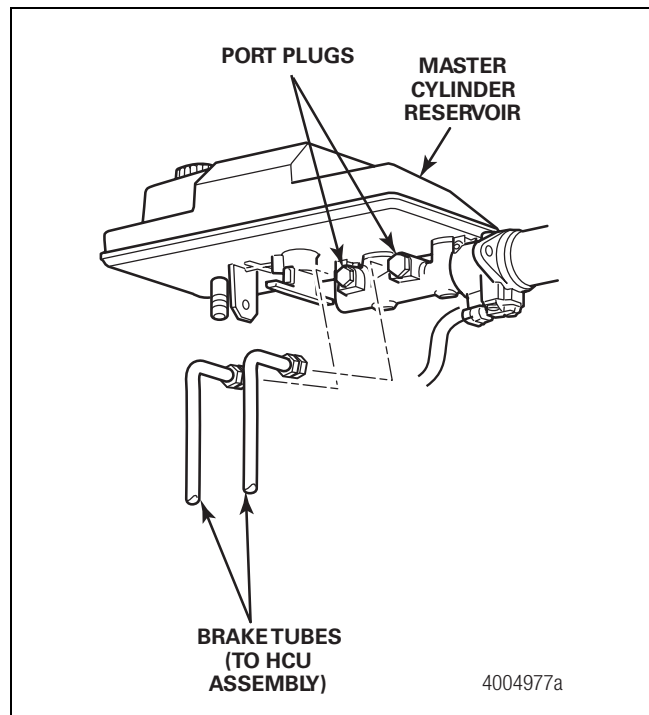

Figure 4.38
12. Disconnect the two brake tubes from the master cylinder. Plug the brake tubes and the master cylinder ports to protect them from contamination. Figure 4.38.